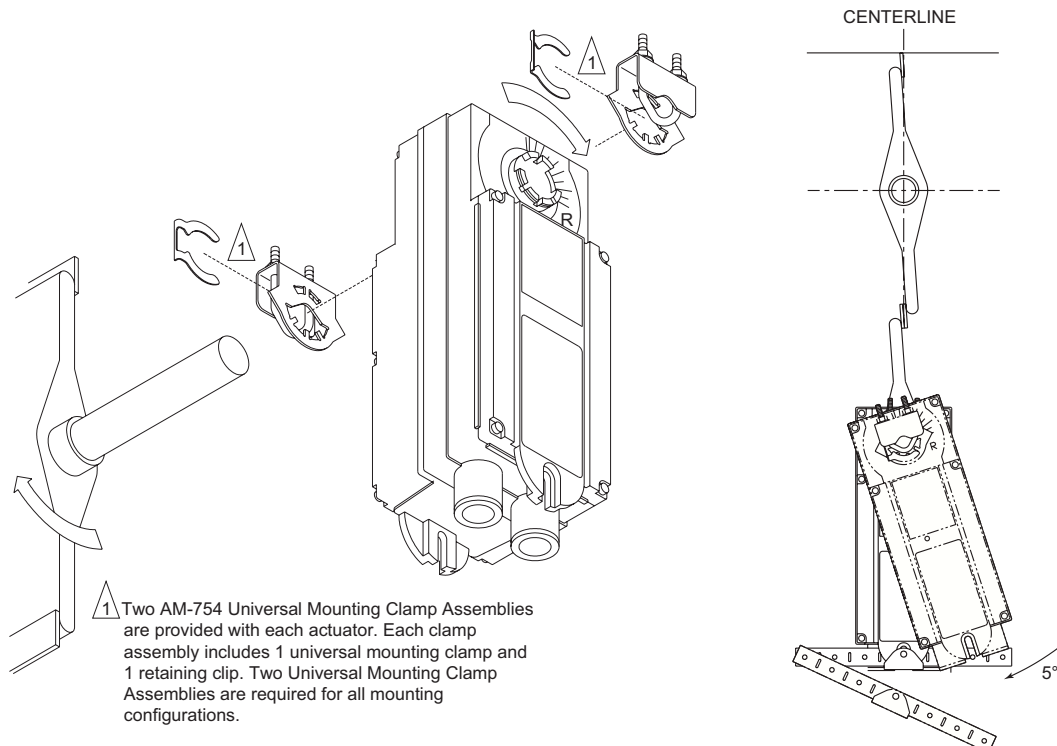
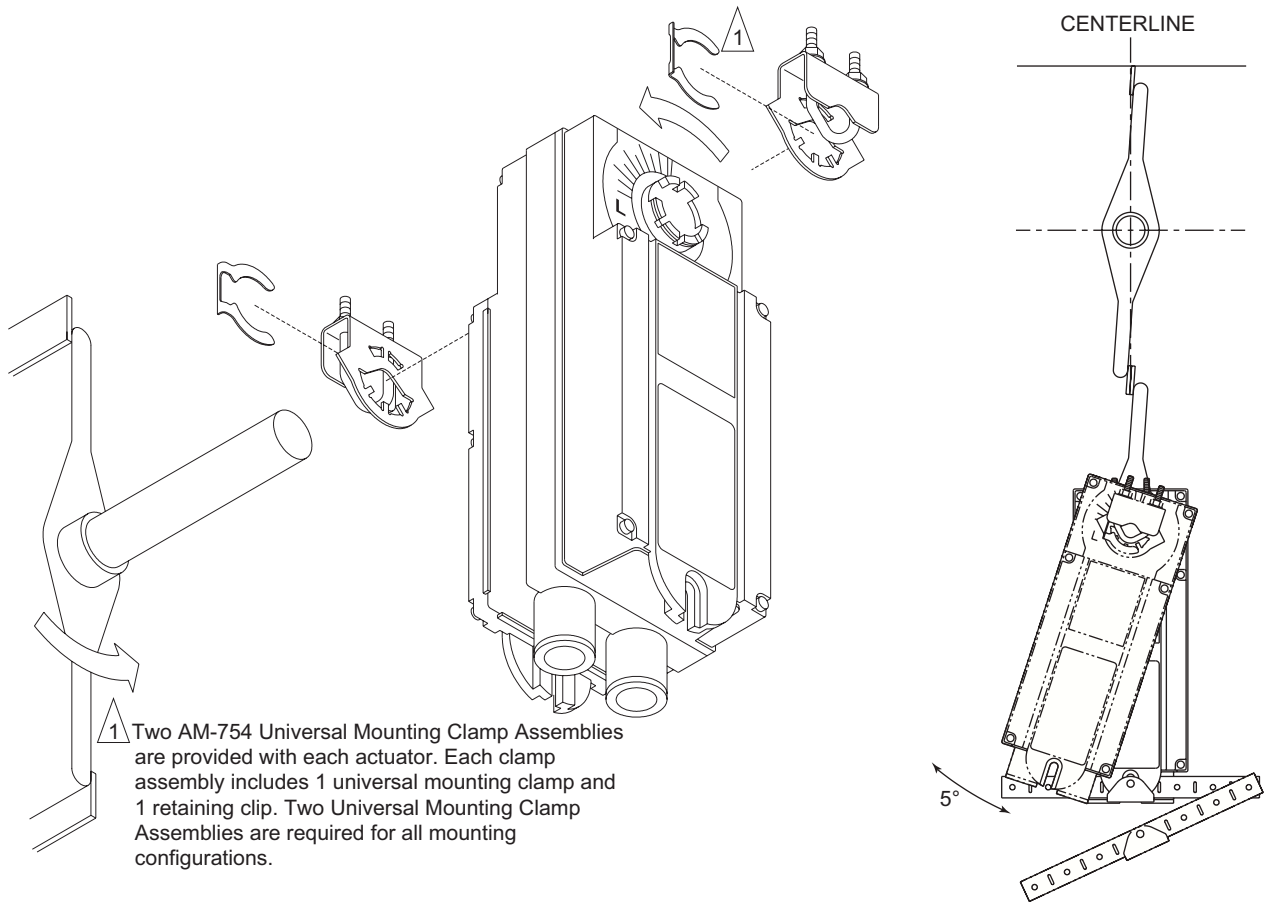

Figure-10 Long Damper Shaft Mounting and Actuator Parts Identification, Actuator Rotation Clockwise to Closed.
Figure-11 Long Damper Shaft Mounting and Actuator Parts Identification, Actuator Rotation Counterclockwise to Closed.
- If the damper shaft rotates clockwise to the closed position, mount the actuator with the side marked “R” facing the installer. See Figure-10.
- If the damper shaft rotates counterclockwise to the closed position, mount the actuator with the side marked “L” facing the installer. See Figure-11.
- Slide the actuator over the shaft and into its desired final mounting position. See Figure-10 or Figure-11.
- Pivot the anti-rotation bracket away from the actuator. See Figure-10 or Figure-11.
- Loosen the universal mounting clamps, making sure not to move the damper shaft. Rotate the actuator approximately 5° in the direction which would open the damper. See Figure-10 or Figure-11.
- Manually rotate the actuator toward the full-closed position to apply pressure to the damper seals. See Figure-10 or Figure-11.
- Pivot the anti-rotation bracket into place and secure the other side of the bracket onto the mounting surface using the other screw provided with the actuator. See Figure-10 or Figure-11.
- Verify that the damper is in its full-closed position and actuator at 90° (perpendicular) to the damper shaft. See Figure-10 or Figure-11.
10. Attach one side of the anti-rotation bracket to the mounting surface with one of the screws provided. Leave the screw loose so that the bracket can be rotated. See Figure-10 or Figure-11.
11. Pivot the anti-rotation bracket away from the actuator. See Figure-10 or Figure-11.
12. Loosen the universal mounting clamps, making sure not to move the damper shaft. Rotate the actuator approximately 5° in the direction which would open the damper. See Figure-10 or Figure-11.
14. Manually rotate the actuator toward the full-closed position to apply pressure to the damper seals. See Figure-10 or Figure-11.
15. Pivot the anti-rotation bracket into place and secure the other side of the bracket onto the mounting surface using the other screw provided with the actuator. See Figure-10 or Figure-11.